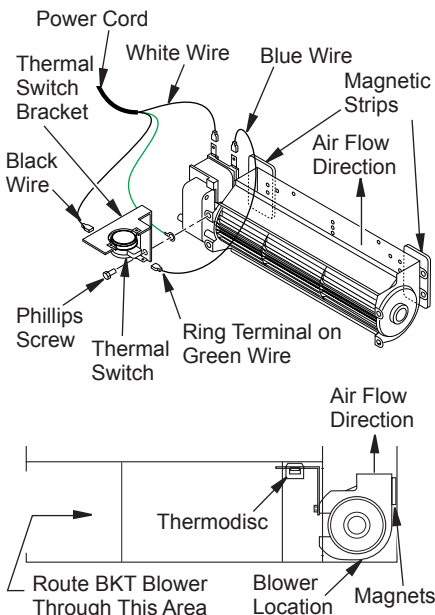

Figure 30 - Blower Model BKT
1. Place green ground wire with ring terminal between bottom hole on thermal switch bracket and top ear hole on blower assembly. Insert Phillips screw into all three pieces and tighten securely (see Figure 30).
3. Place blower against lower rear wall of firebox outer wrapper with exhaust port directed upward and thermodisc positioned up near the fireplace bottom. Thermodisc must be oriented near fireplace bottom as shown in Figure 30, page 20, in order to sense temperature and properly operate. Blower will be held in position against back wall by magnets incorporated onto blower housing (see Figure 30, page 20).